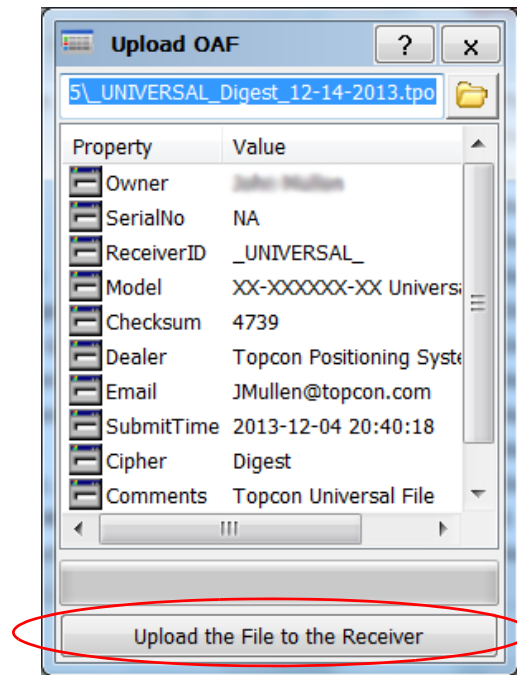

Figure 23: Upload the OAF to the Receiver
- Click **Upload the File to the Receiver** to start loading the file (Figure 23).